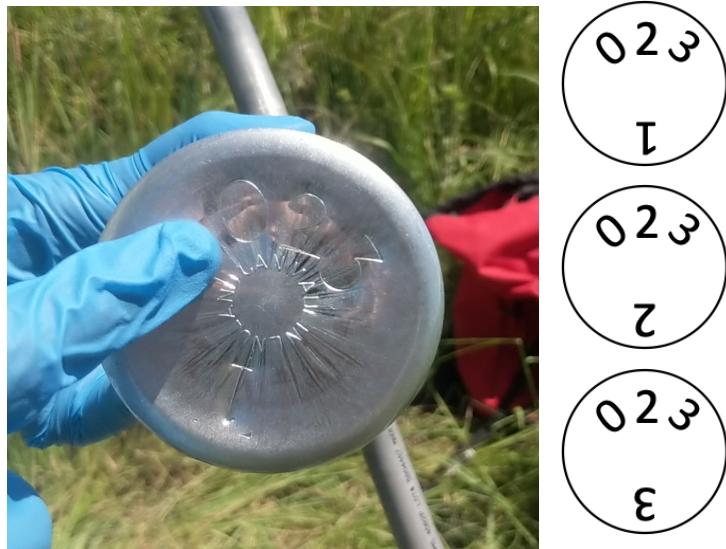

Figure 2. Close-up picture of antler lid from the inside. Note the longer tube on the left, which should be oriented to point upwind, away from the fin.
- e. Sterilizing the inside of each jar and lid with an alcohol wipe and screw the lid on tight (Figure 2).
- f. The canisters can now be attached to the hose clamps. Insert the jar into the hose clamp so that the clamp is about one inch below the lid and the longer tube is facing away from the fin. If it is unclear which tube is longer, you can unscrew the lid and peek inside, the longer lid should also be longer on the inside of the jar (Figure 2). The top canister will be labeled with a 1, the middle will have a 2, the bottom will have a 3 (Figure 1).